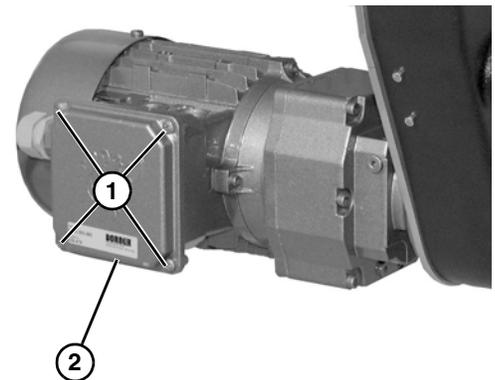

Figure 18
- Loosen terminal box screws (**Figure 18, item 1**) and remove cover (**Figure 18, item 2**).